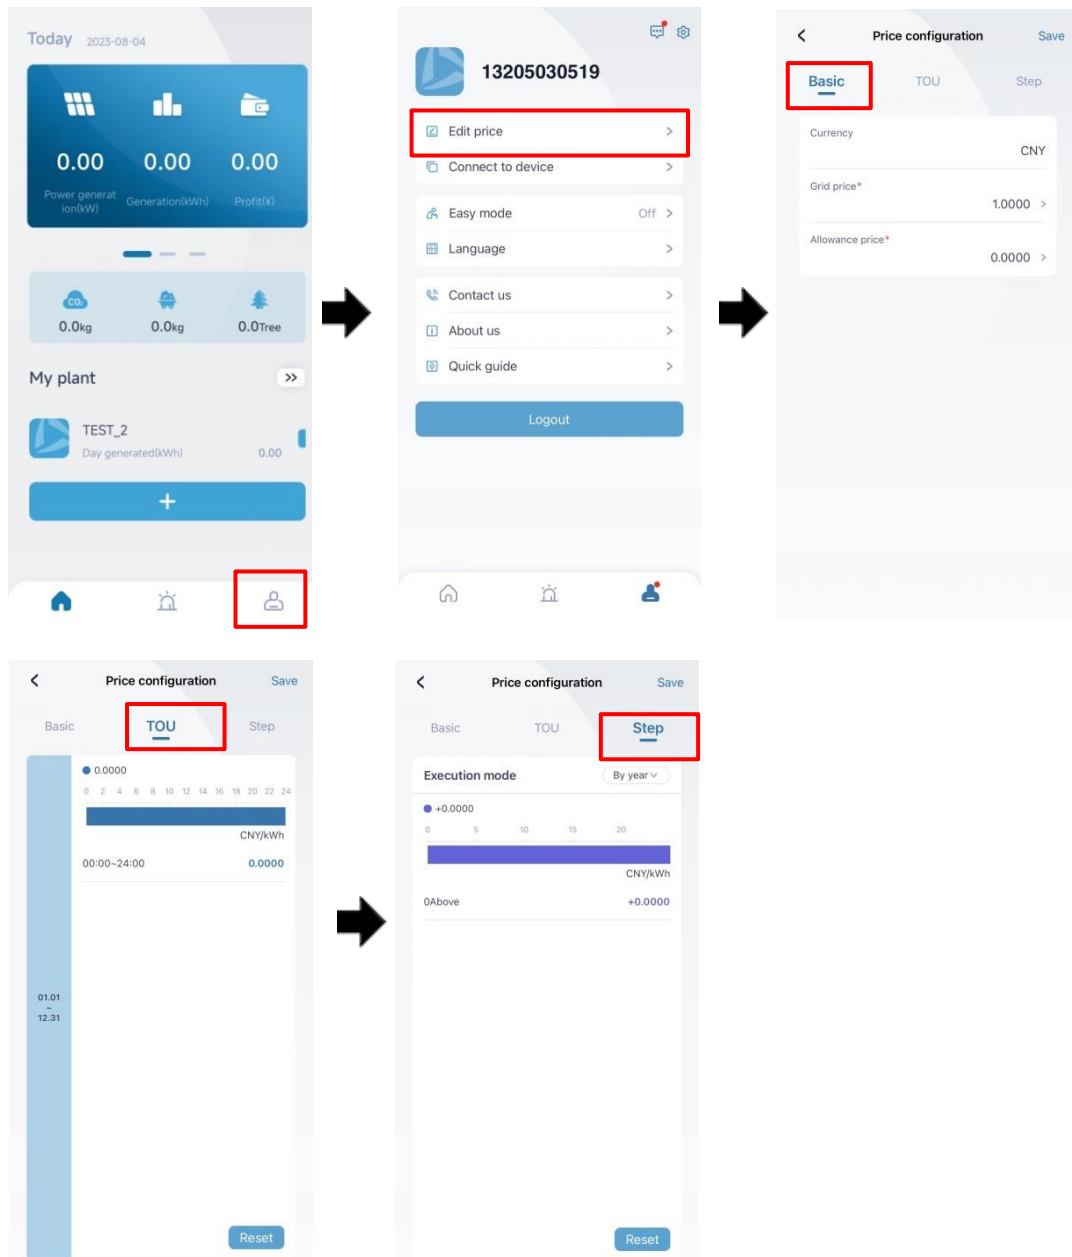

Figure4-6 Plant details interface
Step 7 Select **user icon** at the left bottom corner of the page and enter **edit price** to configure the electricity price, so as to calculate the electricity price in the future, as shown in Figure4-6.